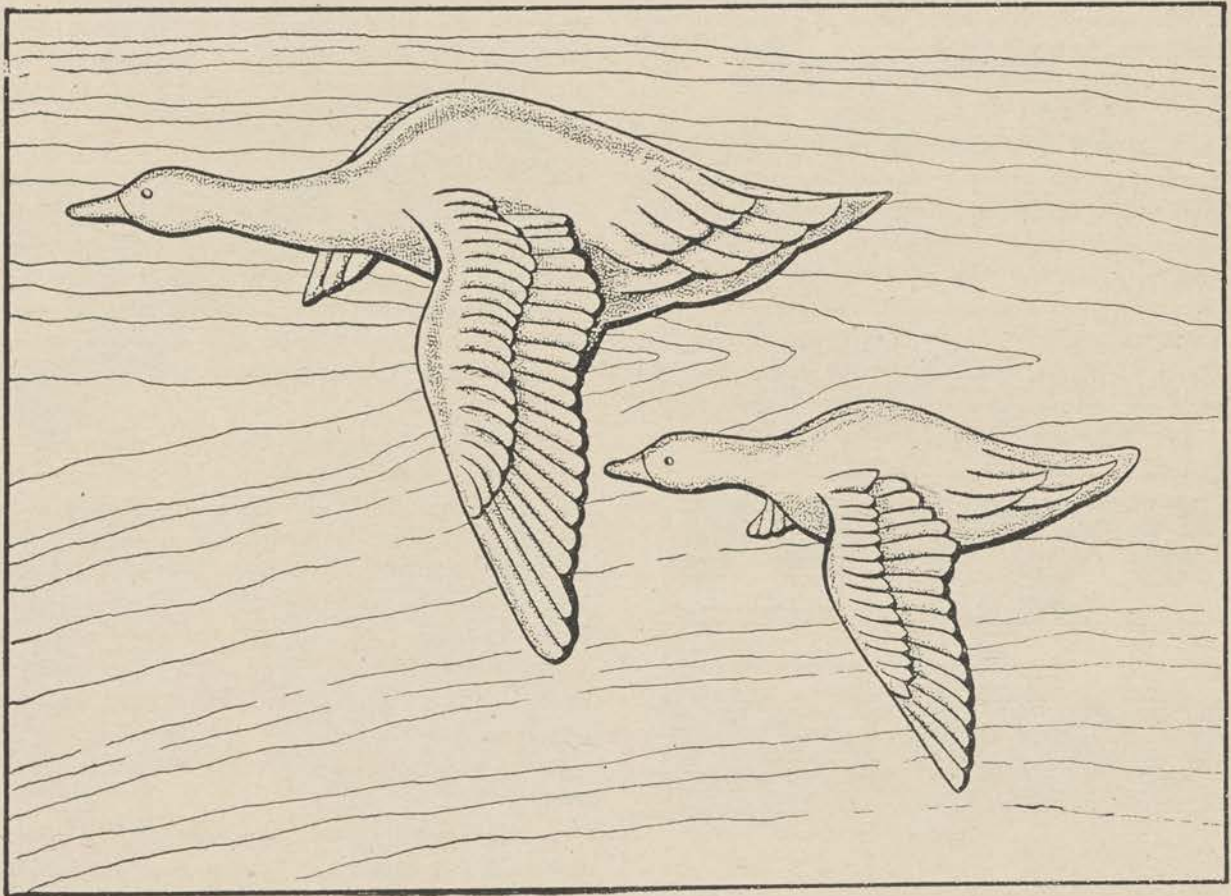

Figure 67. Wall plaque illustrating full relief carving.
d. A more advanced type of carving is full relief, illustrated here in a wall plaque (fig. 67). The preliminary steps are exactly the same as in the flat-surface relief above. When the background has been removed, the figure or design is modeled by rounding contours and paring away the portions that require lowering with appropriate carving tools. While this does not sound difficult, it requires skill and great care in cutting as a slip of the tool at this stage can spoil all the preliminary work.